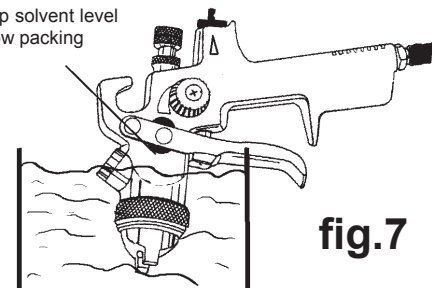

fig.7
- 5.1.1. Immerse the front end of the gun only in solvent. The solvent should just cover the fluid connection. (fig.7).